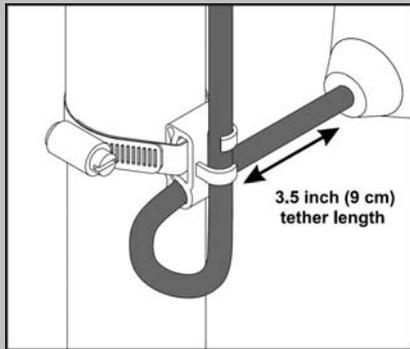

Figure 3
- c. Mount float switches at appropriate levels as illustrated in **Figures 3 & 4**. Be sure that floats have free range of motion without touching each other, or other equipment in the basin.